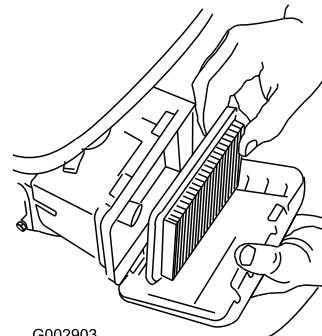

Figure 17
3. Remove the air-cleaner element (Figure 17).